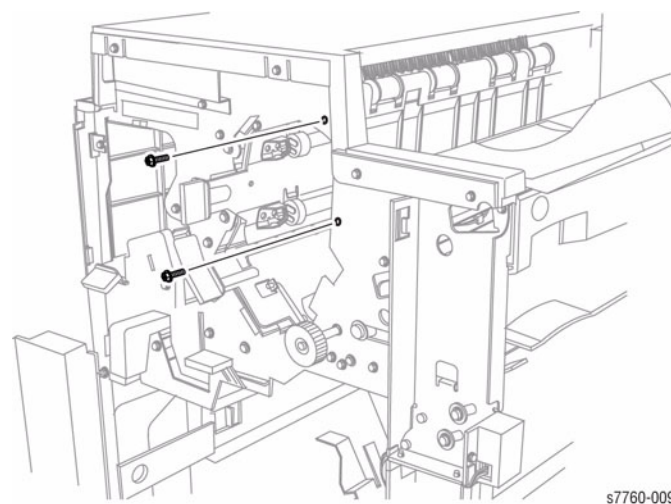

Figure 2 Removing screws on Front of the Finisher
7. Remove the 2 screws on the front of the Finisher (Figure 2).
- b. Disconnect J8322 (refer to Section 7, Finisher Rear View Plug/Jack Locations - Figure 2) and remove the Top Tray Full Sensor from the Sensor Bracket.